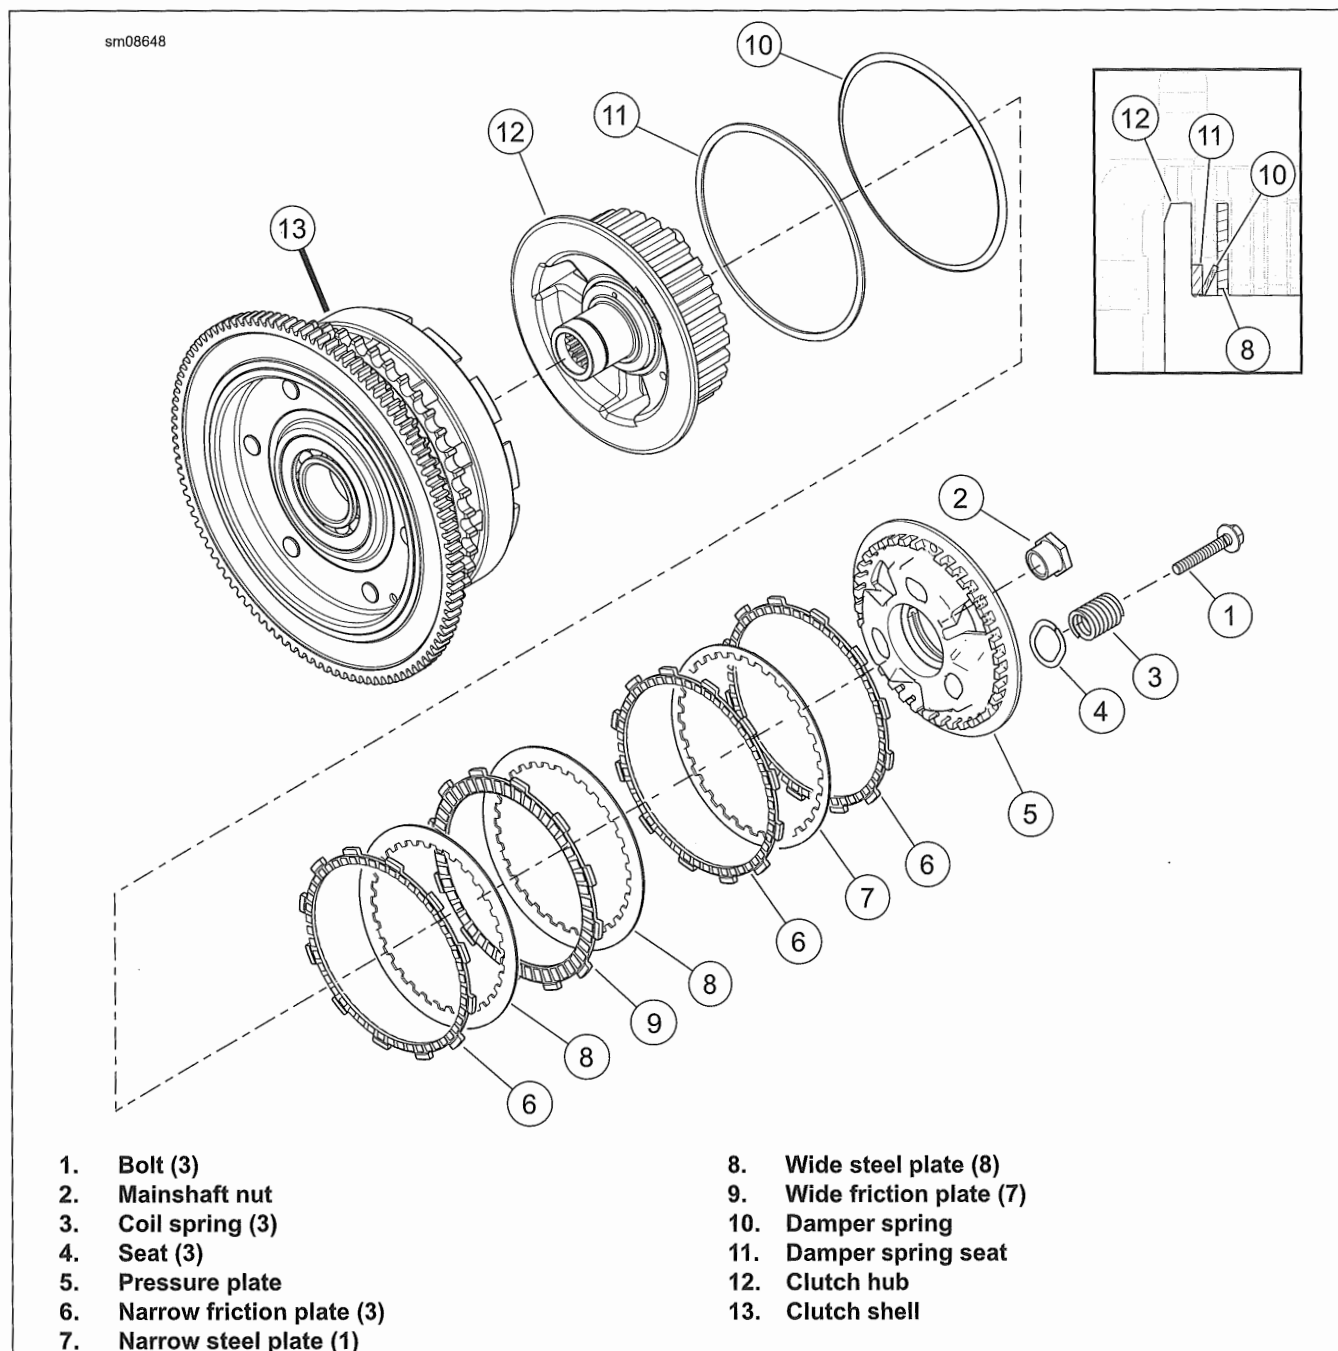

Figure 5-21. Clutch Shell Assembly
1. See Figure 5-21. Remove pressure plate (5).
- a. Remove bolts (1).
- b. Remove springs (3).
- c. Remove spring seats (4).
- a. Remove narrow friction plates (6) and narrow steel plate (7).
- b. Remove wide friction plates (9) and wide steel plates (8).
- c. Remove narrow friction plate (6).
- a. Remove damper spring (10).
- b. Remove damper spring seat (11).
2. See Refer to Figure 5-21.. Install Damper spring.
- a. Install damper spring seat (11) into clutch hub (12).
- b. Install damper spring (10) onto damper spring seat.
- a. Install one narrow friction plate (6) into clutch hub.
- b. Install one wide steel plate (8) onto narrow friction plate and damper spring (10).
- c. Beginning with a wide friction plate (9), alternate remaining wide friction plates (9) with wide steel plates (8).
- d. Install narrow friction plate (6), narrow steel plate (7) and remaining friction plate (6).
4. Install pressure plate (5).
- a. Install spring seats (4).
- b. Align and install pressure plate (5) onto clutch hub (12).